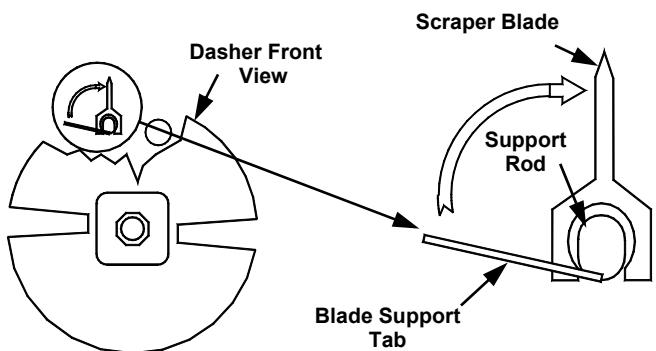

**Fig. 6
- e. Remove the o-rings from the spigot plunger by grasping the part with one hand and with a dry cloth in the other hand, squeeze the o-ring upward. When a loop is formed, grasp the o-ring with the other hand and roll it out of its groove and off the spigot plunger (Fig. 6).